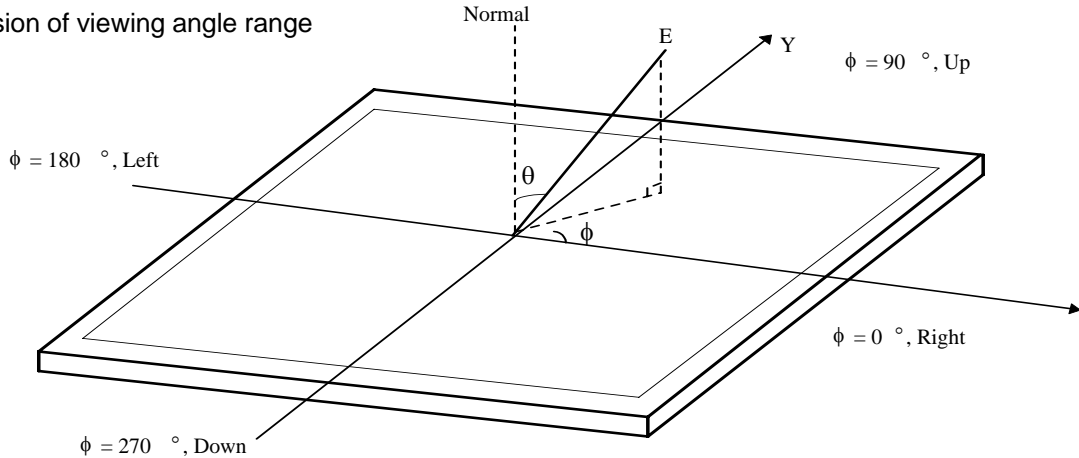

FIG. 4 Viewing Angle
5. Viewing angle is the angle at which the contrast ratio is greater than 10. The angles are determined for the horizontal or x axis and the vertical or y axis with respect to the z axis which is normal to the LCD surface. For more information, see FIG 4.